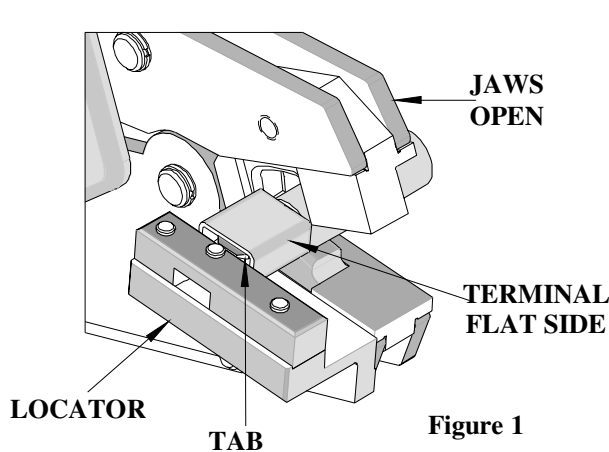

Figure 1
2. Push the terminal onto the tab locator and all the way to the stop. The barrel of the terminal should be down with the flat side facing up. See Figure 1.